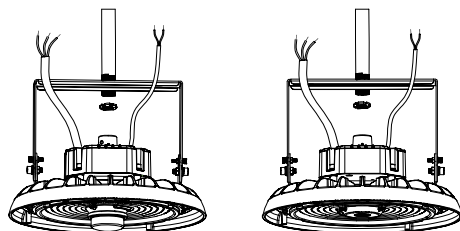

FIGURE 9
2. Insert stem into the bracket hole. (Figure 9).